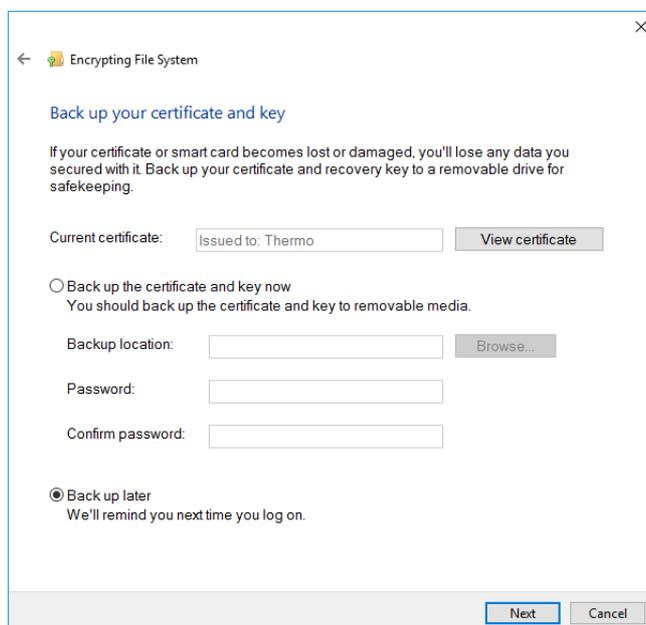

Figure 2-27. Selecting back-up for self-signed certificate
6. Select **Back up later** if you only intend to use this certificate for testing, see Figure 2-27.